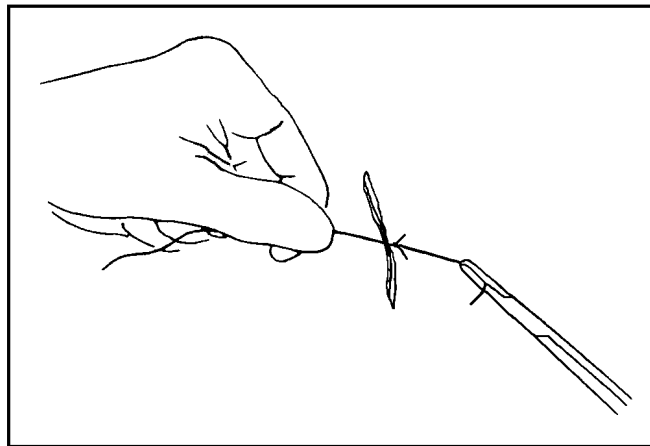

Figure 3-34
- (4) Pull the short end through the loop with even tension on both sides of the knot. (See Figure 3-34.)